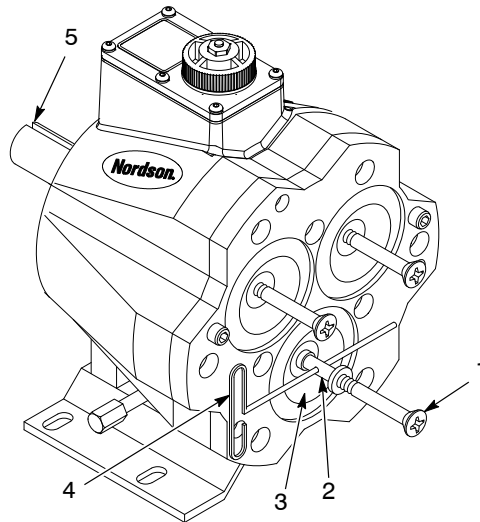

Figure 5 Installing Screws into the Plunger Shafts
1. See Figure 5. To prevent air from being drawn in through the pump plungers during priming, install the diaphragm cartridge screws (1) into the plunger shafts (2).